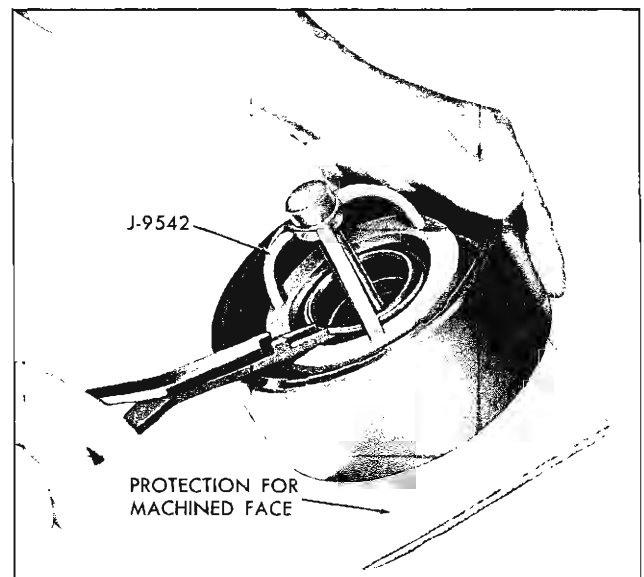

Fig. 25PG—Removing Clutch Spring Retainer Snap Ring
4. Remove the spring retainer using J-9542 as shown in Figure 25PG, or if using an arbor press, use J-5133 and J-7782 adapter ring. Compress the